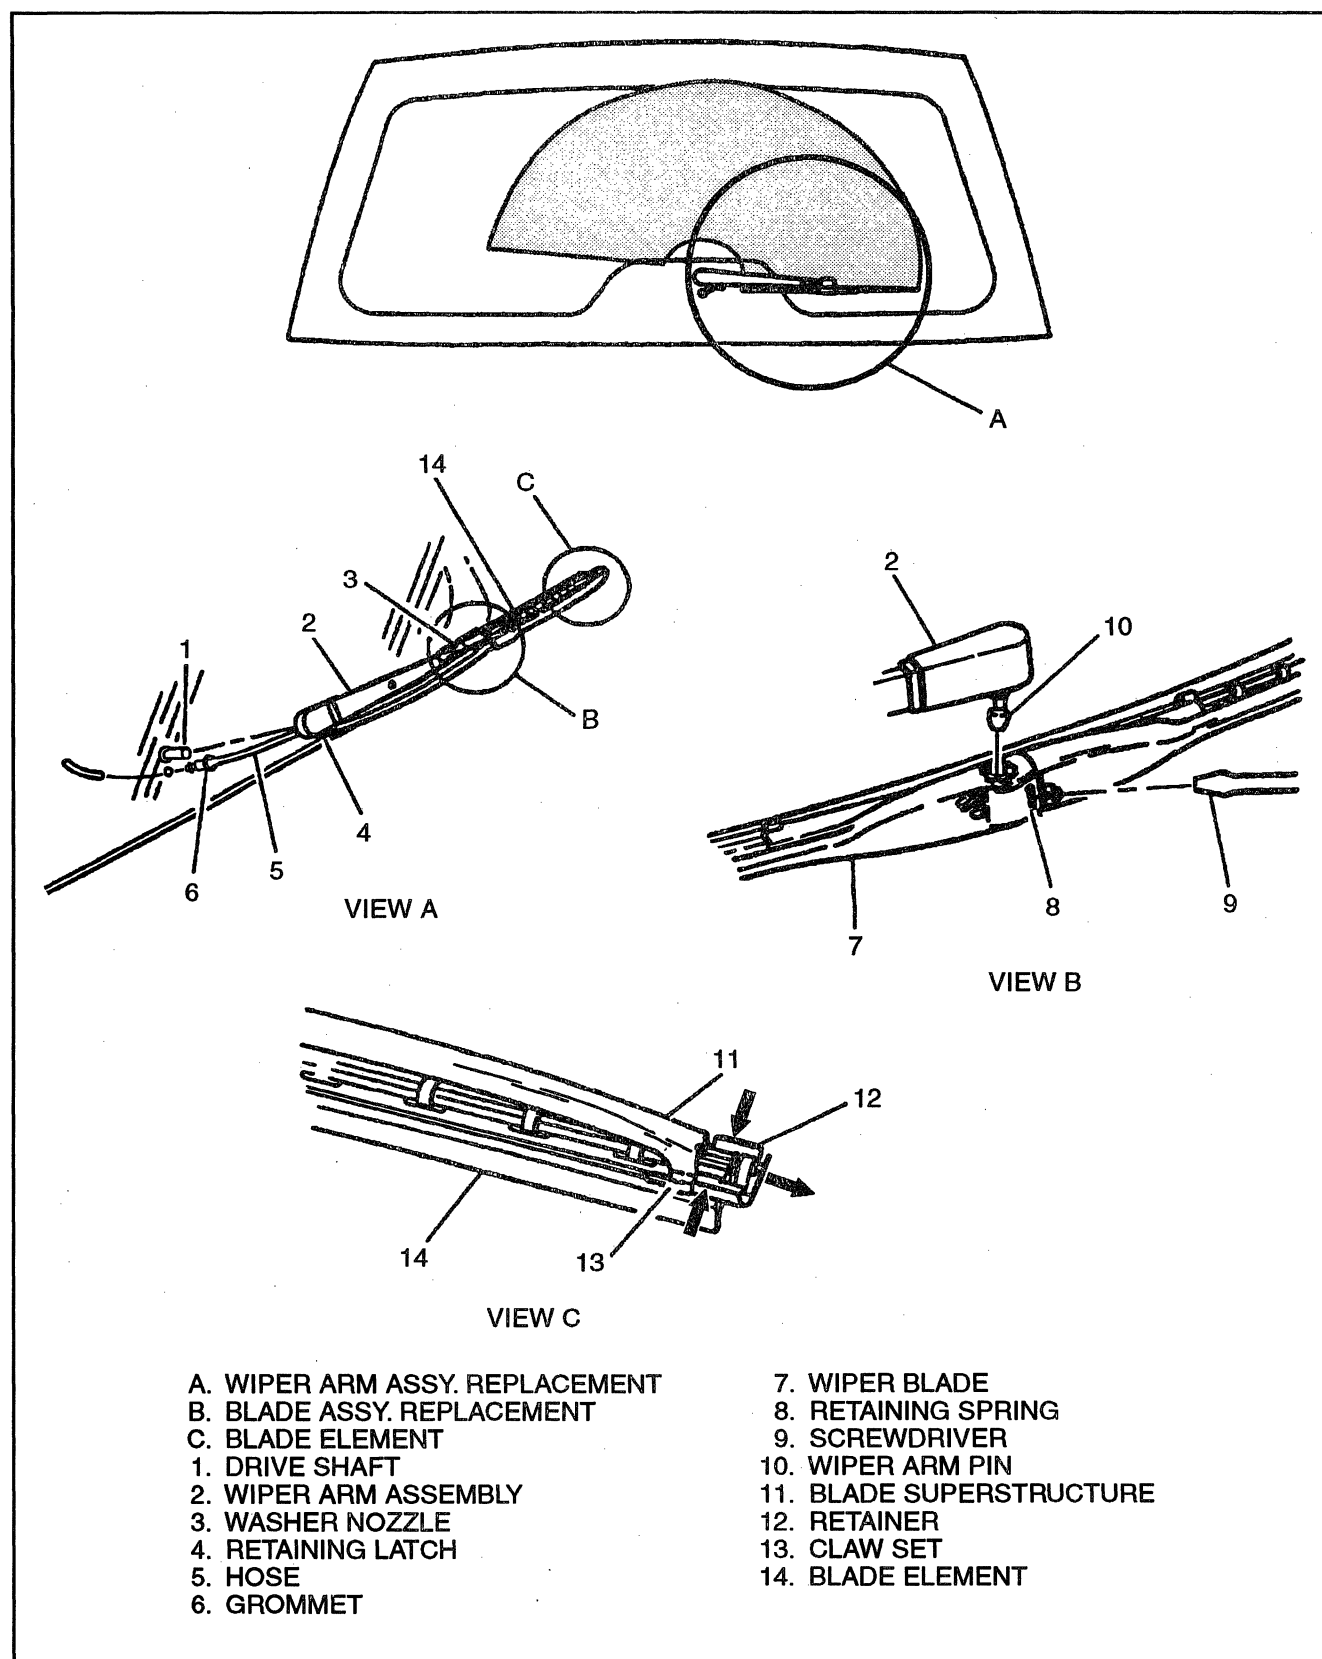

Figure 7-Wiper Arm Assembly, Blade, and Element Replacement
Remove or Disconnect (Figure 7)
Install or Connect (Figure 7)
2. Check the wipe pattern and compare it to Figure 7.